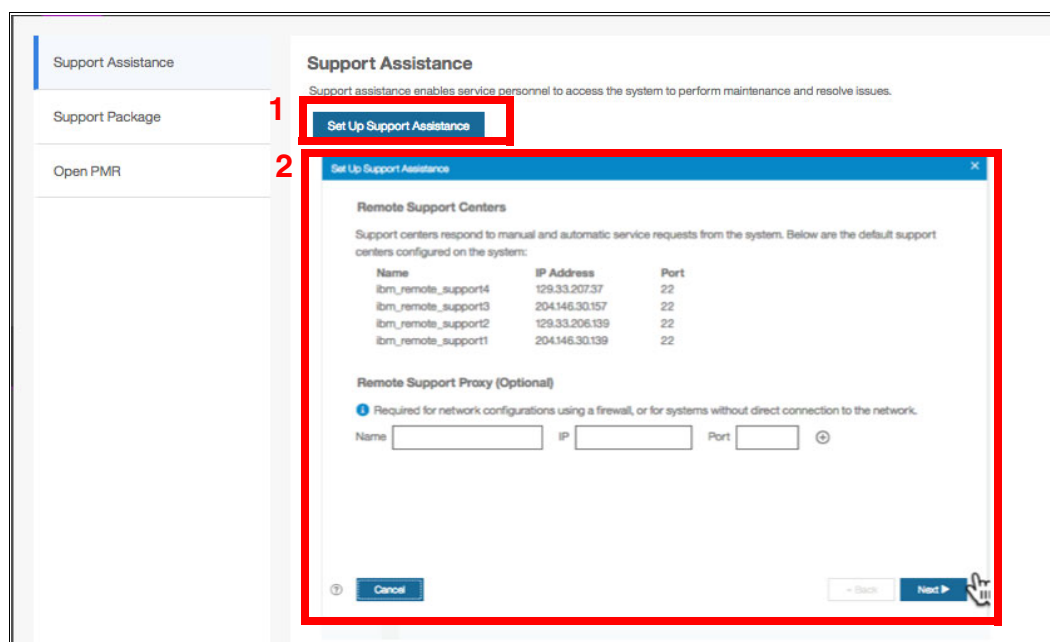

Figure 4-23 Set Up Support Assistance
1. In Figure 4-23, you select **1** Setup Remote Assistance and the Setup Window **2** with the default settings displays.
Note: Customer Firewalls must allow connection for SSH to IBM IP Addresses, as shown in Figure 4-23.